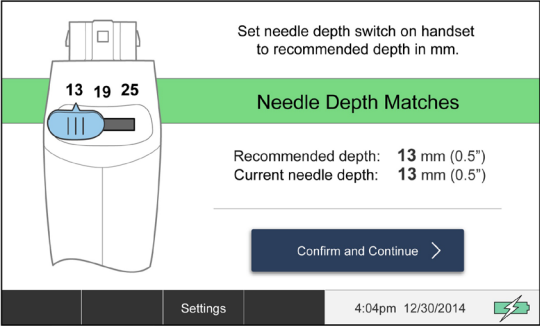

Figure 43 Recommended Needle Depth
5. Confirm Needle Depth (see Figure 43).